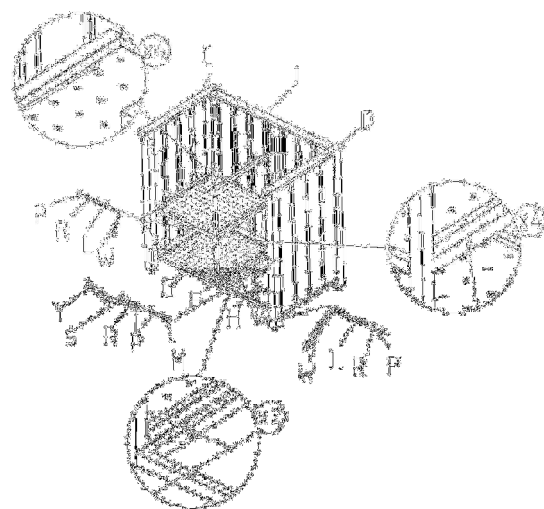

Figure 3
3. Assemble the left side (C), the shelf (G), divider (F), cylinder holder(H) and right side(D) together with 8 bolts $\frac{1}{4}$ in x 30 mm (L), 8 flat washers (P) and 8 spring washers (R); 2 bolts $\frac{1}{4}$ in x 55 mm(M), 4 flat washers (P) and 2 spring washers (R), 2 nuts(S) by using the Allen wrench (W) and open end wrench(Y) (see Figure 3).